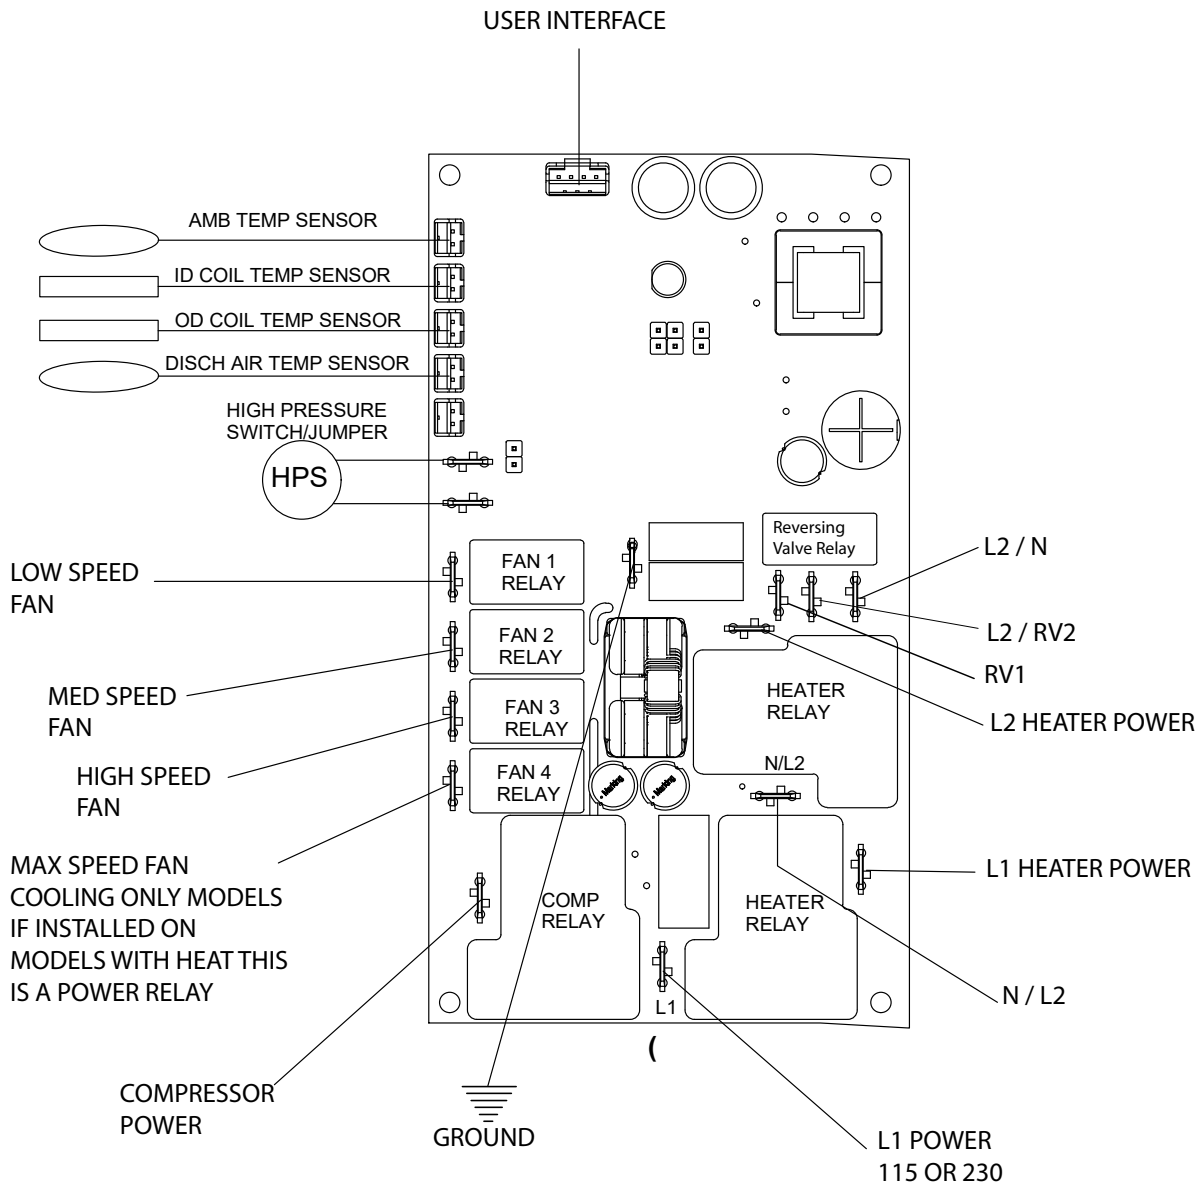

Figure 711 (Electronic Control Board Identification)
2. Locate thermistor plug and disconnect from Control Board. (Refer to Control Board Identification, Fig 711)
1. Make sure the unit has the proper voltage and that it is turned on. Check power at Terminals L1 and L2. (Refer to Electronic Control Board Identification, Figure 711)
3. Using a voltmeter, check the outer pins on the user interface port of the electronic control board. There should be 24VDC. (Refer to Electronic Control Board Identification, Fig 711)